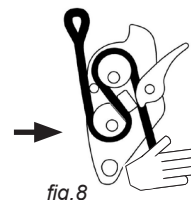

fig.8
**To descend** - Quadra should be in normal friction configuration - gently squeeze the handle with left hand, while controlling the tail rope with right hand. When the handle is in a central position (the "sweet spot") the rope will pass through the device (fig.8). If the handle is squeezed too hard, or is released the device will brake.